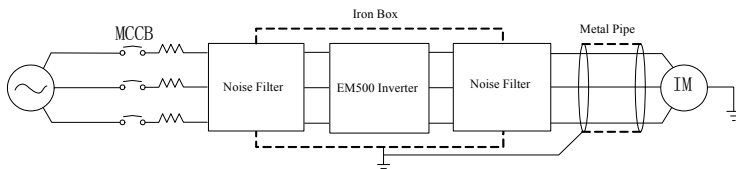

Figure 3–10 Countermeasures Against RF Interference
The internal main circuit structure of EM500 is shown in Figure 3–3.
- Noise filter installation is installed on the output side is shown in Figure 3–8.
In addition to the installation of a noise filter, the method of wiring all output cable into grounded metal pipe can be adopted to suppress the inductive interference on the output side. The distance between output cable and signal line shall be greater than 30 cm and the inductive interference decreases substantially, as shown in Figure 3–9.
RF interference can be produced by input cable, output cable and inverter and reduced by installing a noise filter on both input and output sides and covering inverter with an iron box. See Figure 3–10 for detail.